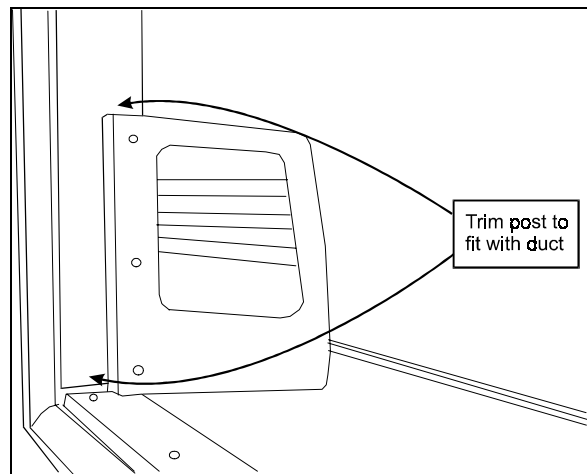

FIGURE 18
9. Trim the post and install (refer to figure 18).